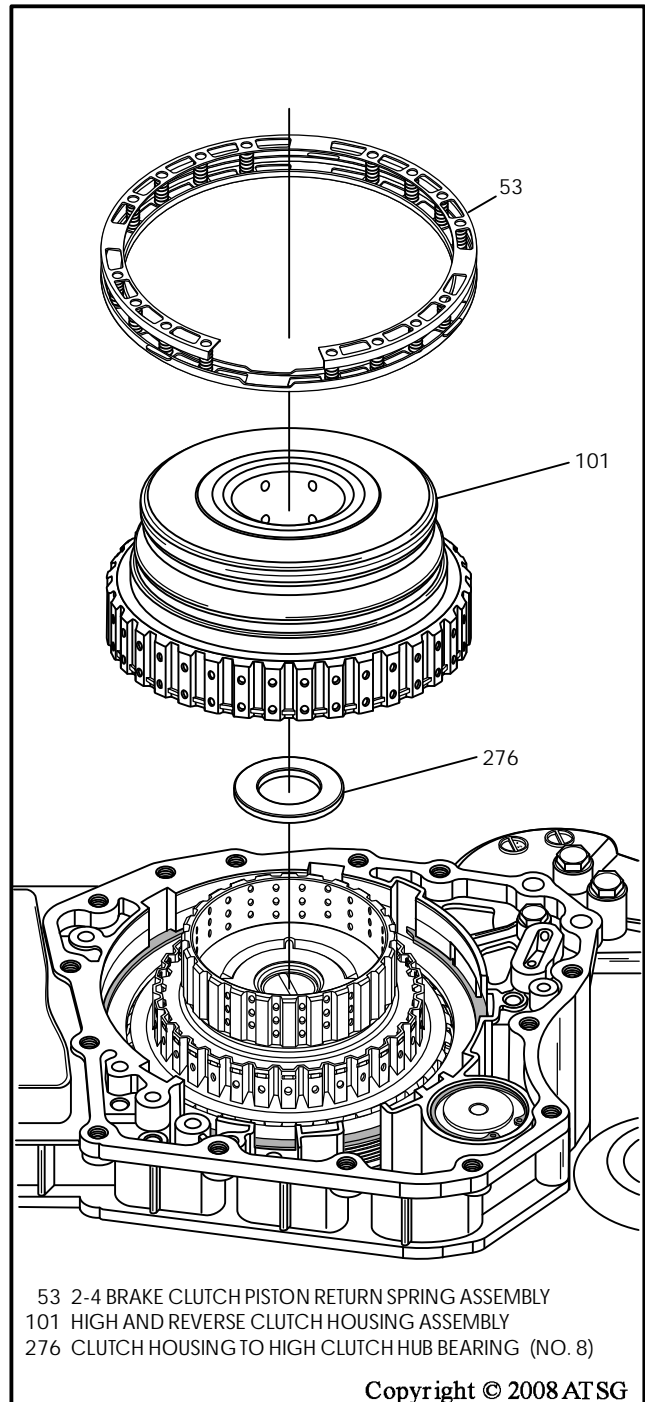

Figure 52
53. Remove 2-4 brake clutch piston return spring assembly, as shown in Figure 52.
54. Remove the high and reverse clutch housing assembly, as shown in Figure 52.
55. Remove the number 8 thrust bearing, as shown in Figure 52.